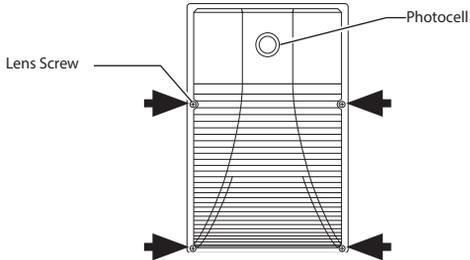

Figure 1
- Using a phillips screwdriver, remove the four screws holding the clear lens on the light fixture (Figure 1). Remove the lens.